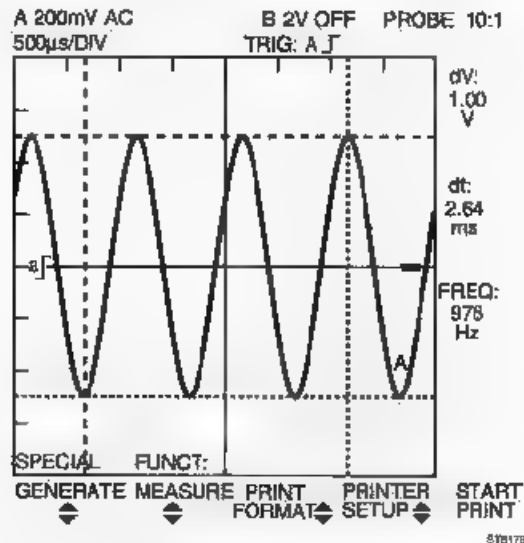

Figure 4.13 Generator produces sine wave signal
- L The ScopeMeter display will look like figure 4.13. The generator must produce a sine wave signal with an amplitude of 1V and a frequency of 976 Hz (typical values).